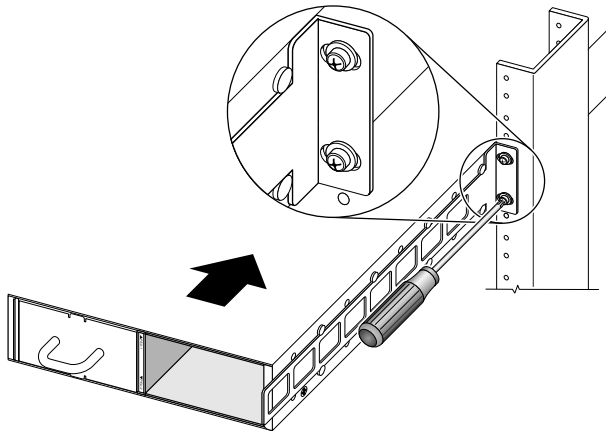

Figure 251: Fastening the Rear Mounting Brackets
- b. Securely tighten the rack mounting screws, as shown in Figure 251.